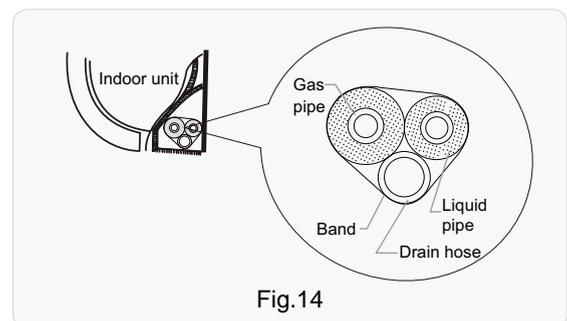

Fig.14
(1) Bind up the connection pipe and drain hose with the band.(As show in Fig.14)